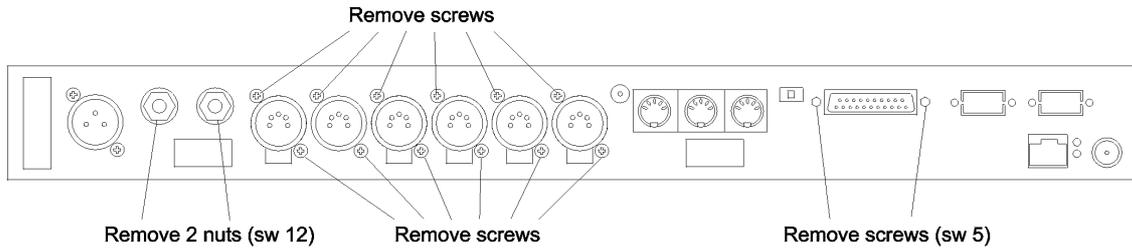

Fig. 2
- 1.7. Remove the fastening screws of the PCB (see fig. 2).